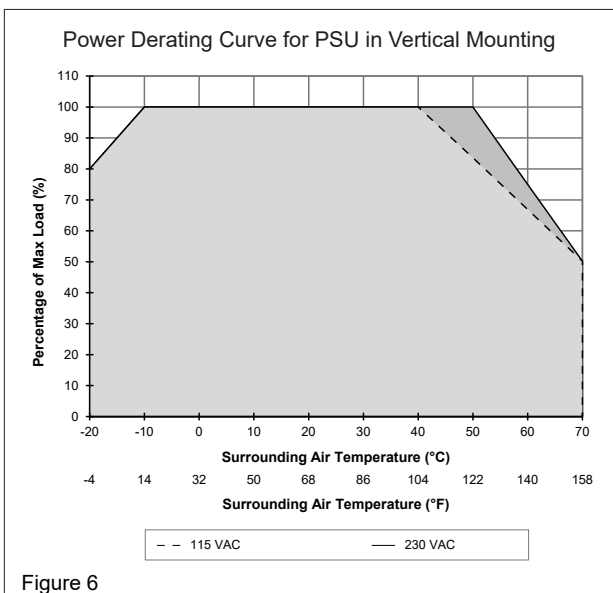

Figure 6
5.4. Thermal behavior (Fig. 6)
Derating	Refer to Fig. 6 -10°C to -20°C (2%/°C), > 40°C (1.67%/°C) @ 115VAC -10°C to -20°C (2%/°C), > 50°C (2.5%/°C) @ 230VAC
Operating temperature (surrounding air temperature)	-20°C to +70°C [-4°F to +158°F] (Refer to Fig. 6)